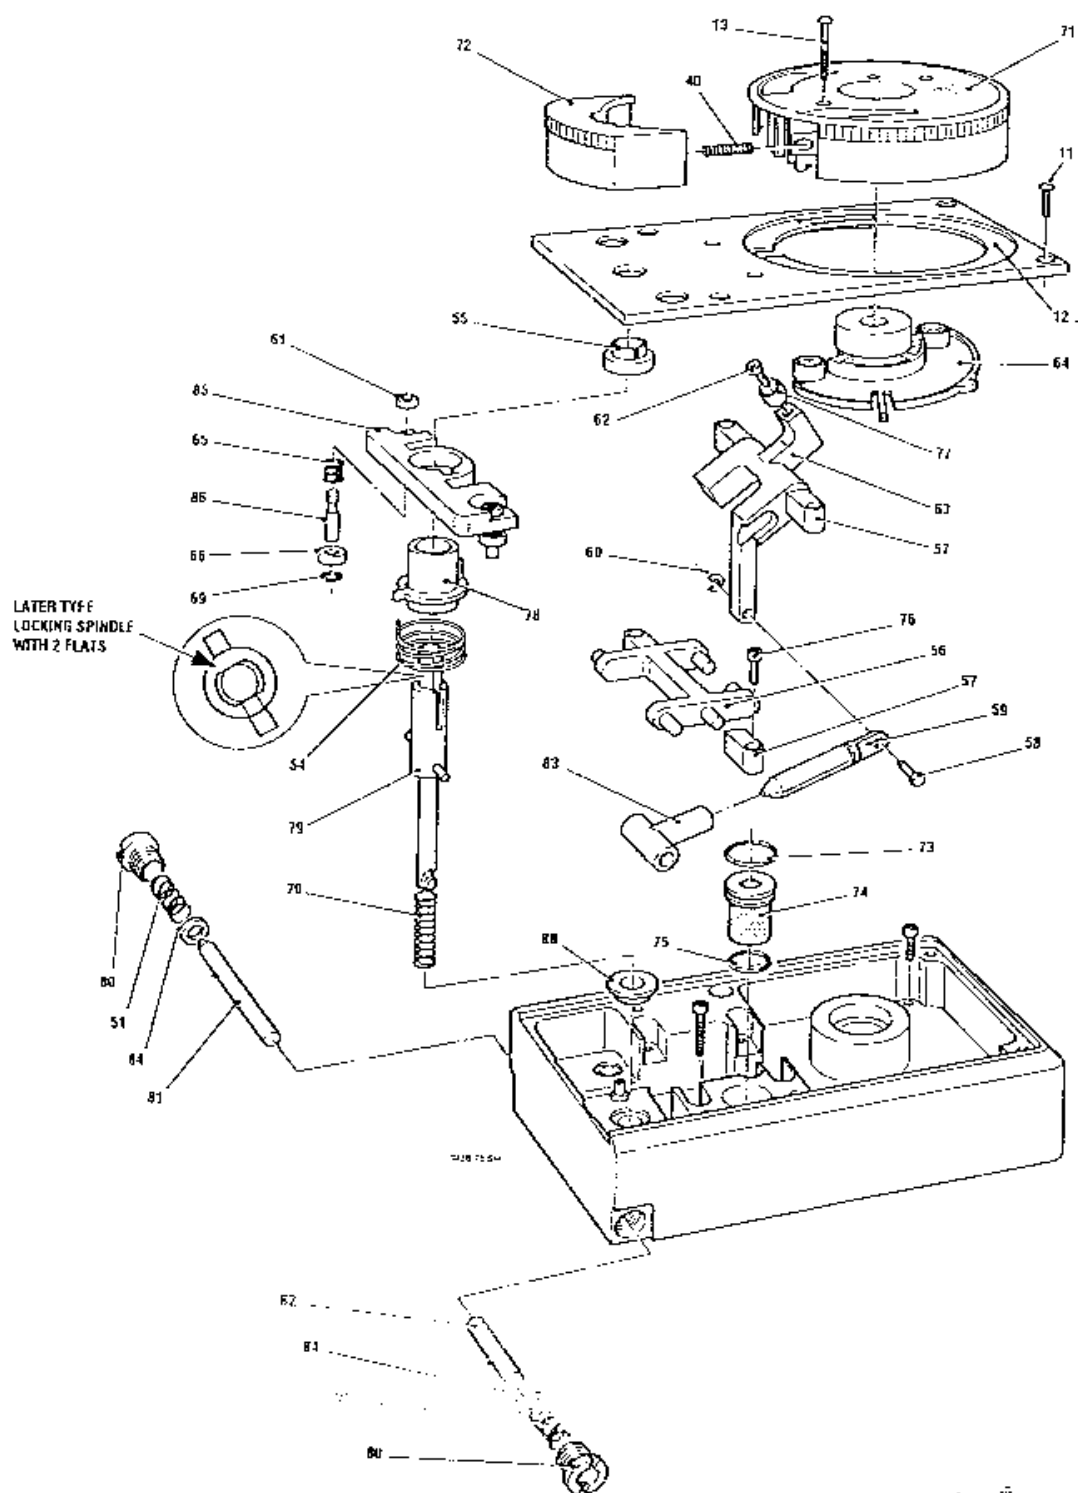

Fig. 3.6 Interlock Mechanism Disassembly
3.3.1 Interlock Block - Both Types (Fig. 3.6)
1. Stand the vaporizer on the vaporizer base support. Referring to Fig. 3.6, remove the four screws (11) from the top cover plate (12) and then lift off the top cover plate, complete with the drive disc (64) and the dial assembly (71). Dispose of the top cover plate if it does not have the latest type shaped cutout as shown in Fig. 3.15.